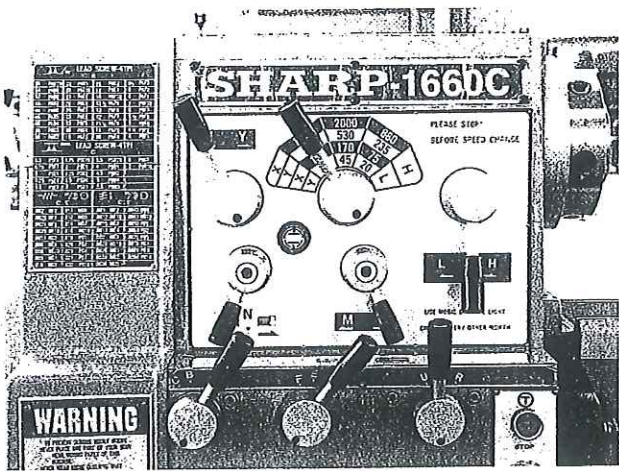

Figure 1
- b. If the problem is not in the spindle continue by engaging one control at a time until the problem is found. (Figure 1)